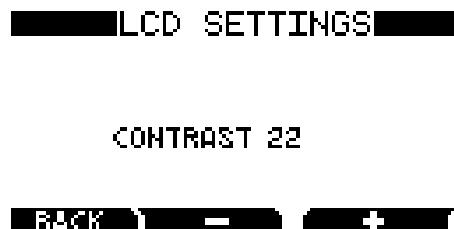

Figure 9: LCD settings screen
The LCD SETTINGS menu is used to adjust LCD display contrast. To open the LCD SETTINGS menu highlight the LCD SETTINGS option in the SETUP menu (see Figure 5) and select by pressing the ENTER button. Figure 9 below shows the display with the LCD contrast value selected for setting. The + and – buttons allow value of the display contrast to be adjusted for best visibility.
- 5iv) Use the right-hand button labelled with an arrow to scroll through the menu. Highlight LCD SETTINGS then press the central ENTER button. This brings up the LCD SETTINGS SCREEN, shown in Figure 9.
- 7iv) Use the right-hand button labelled with an arrow to scroll through the menu. Highlight RESOLUTION then press the central ENTER button. This brings up the resolution screen, shown in Figure 9 in its percentage mode. If the gas concentration is low it will show in parts per million, ppm.